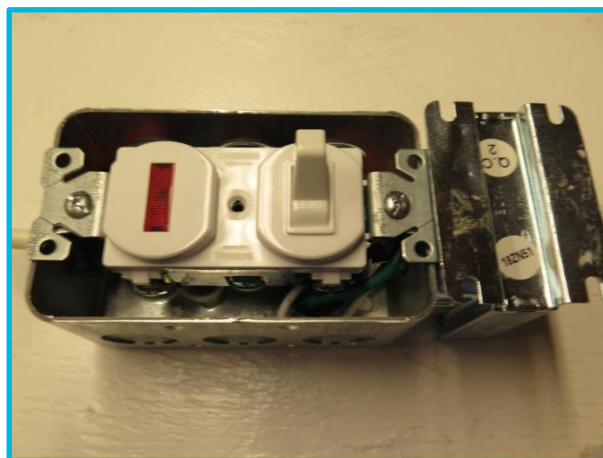

Fig. 15
1. A "Bell Transformer" from the local hardware. Bell transformers are used to power domestic front door bells and door chimes. They step down the domestic voltage from 120 volts to 8 volts, which is a very safe voltage for students in a classroom, which normally set a limit at 12 volts. It should be noted however that some bell transformers also provide an alternative of 16 or even 24 Volts. In such cases it is recommended that the screw in the 16 volt position be removed. See Figure 15. These transformers are designed to fit snugly against the outside of a standard steel receptacle box.
2. A 120 Volt single pole light switch of the type which has a red pilot light in the other position. The red light can be arranged to come on only when the switch is in the "On" position. A warning to teachers: These switches are not the easiest to connect up. It is strongly recommended that you engage a qualified electrician to wire up this "Safe Power Box". See Figure 15.